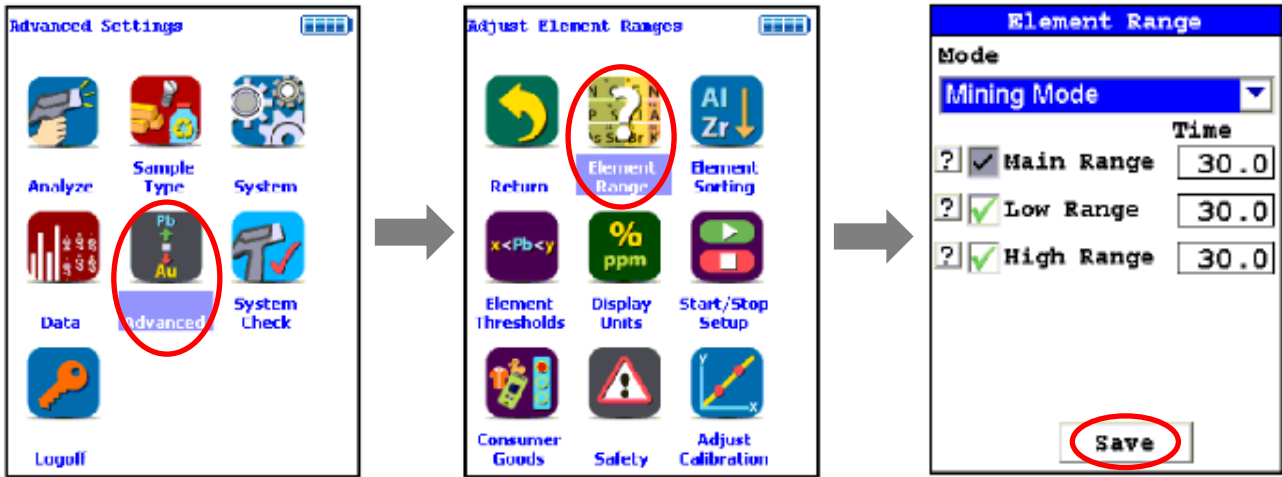

Figure 10: How to verify and/or change filter position and time.
2. Select the box next to the filters you want to select and set the desired length of time (in sec) for each filter. Select the *Save button* and return to the *Main Menu* (Fig. 10).